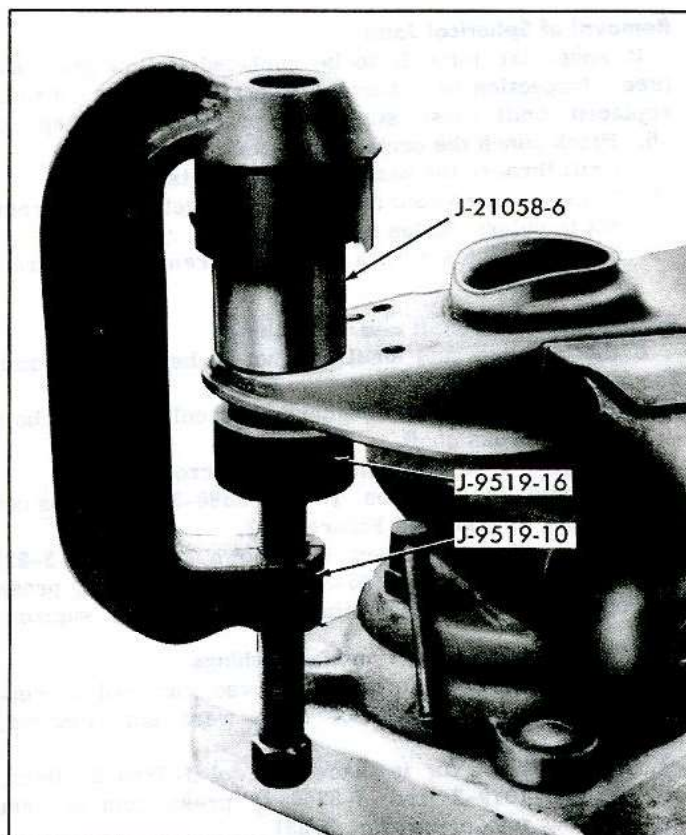

Fig. 3-19—Installing Spherical Joint
14. Start the replacement ball stud into the control arm and install Tools J-9519-10, J-9519-16 and J-21058-6 as shown in Figure 3-19.